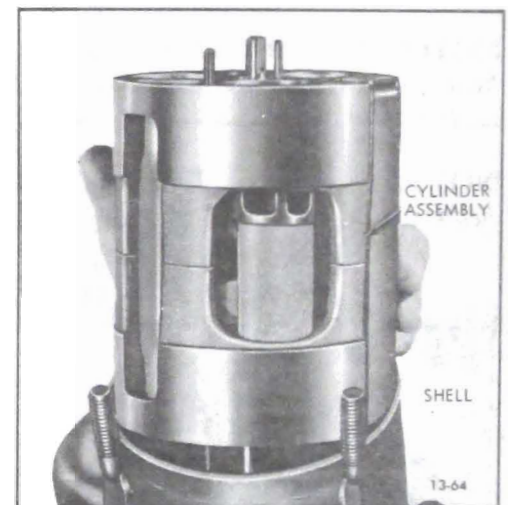

Figure 13-88 Removing Internal Cylinder Assembly
2. Push shaft upward from front head and lift out cylinder assembly (see Figure 13-88), front suction valve reed disc, and front discharge valve plate.